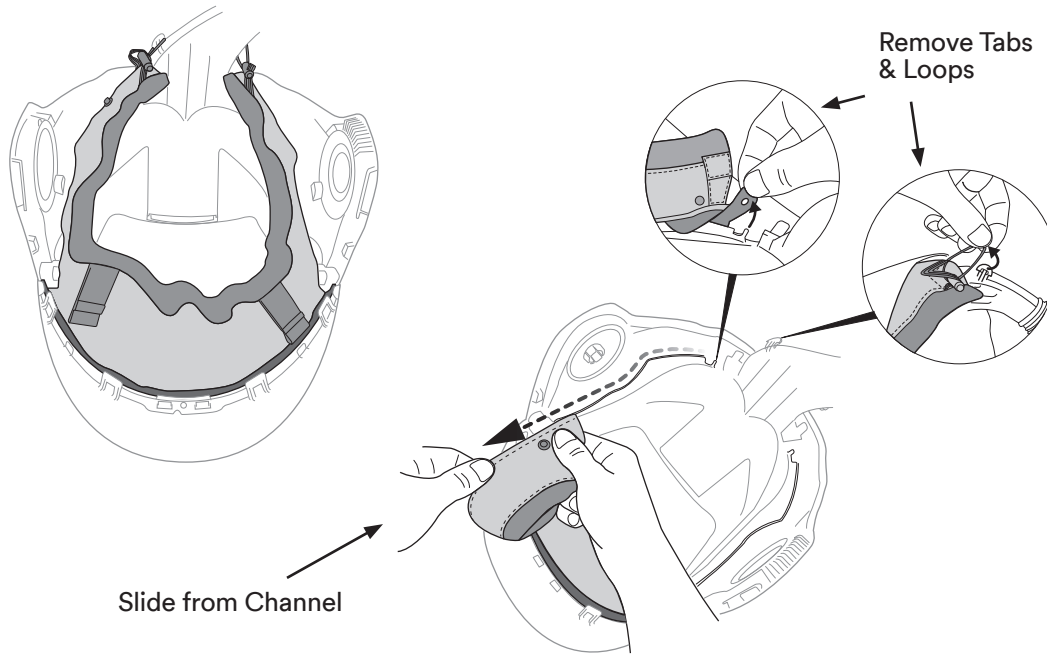

Fig. 13a
- a. Turn the welding helmet upside down and remove the faceseal tabs and retaining loops from their posts next to the airduct tube (Fig. 13a).
- b. Slide each side of the faceseal out of the channel holding it to the welding helmet and pull away the plastic retaining strip at the chin area of the faceseal (Fig. 13a and 13b).